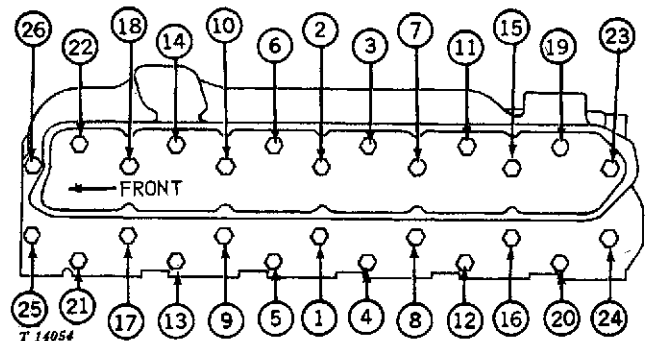

Fig. 5-Proper Sequence for Tightening Cylinder Head Cap Screws
Start cylinder head-to-cylinder block cap screws by hand and tighten evenly to 110 ft. lbs torque, following the exact sequence shown in Fig. 5.
**IMPORTANT:** Run engine for one hour at 2500 rpm with 1/2 load. Then, retighten cylinder head cap screws in sequence shown (Fig. 5) to 110 ft-lbs torque. Break the cap screws loose 5 to 10 degrees before retightening them.